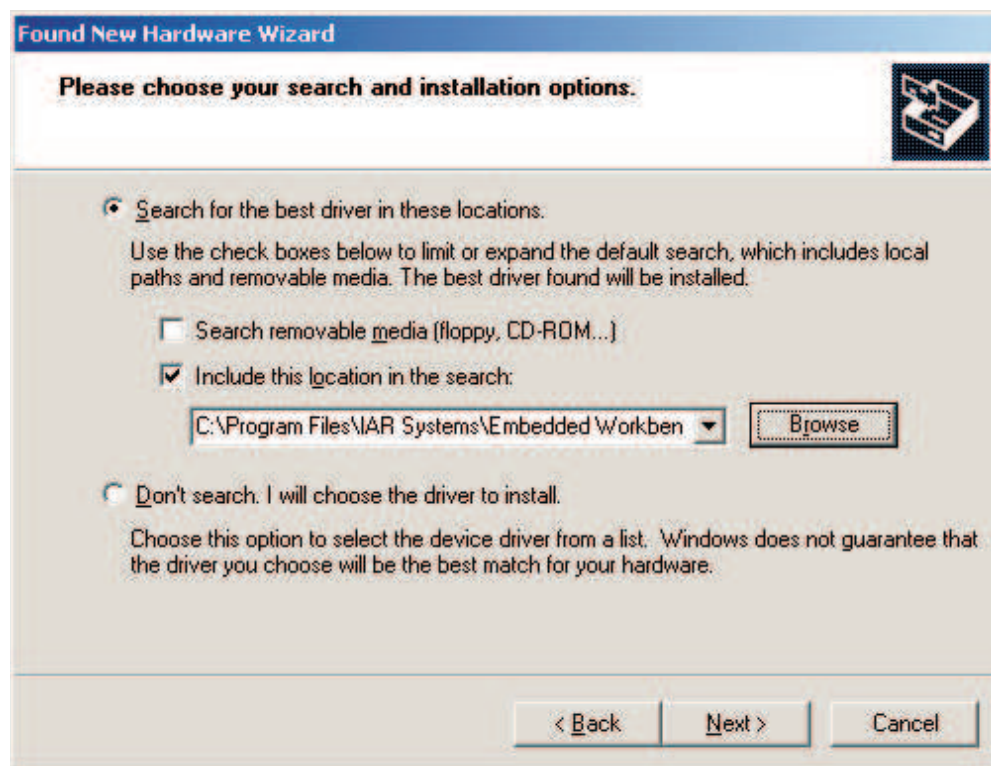

Figure E-3. WinXP Driver Location Selection Folder
5. Browse to the folder where the driver information files are located (see Figure E-3). On a default installation the files are located in the following directory: